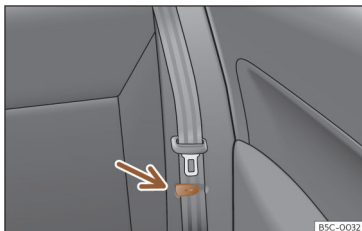

Fig. 109 Rear seat: clip to hold the seatbelt in place.
- Place the side seat belts in the trim clip >>> **Fig. 109**.